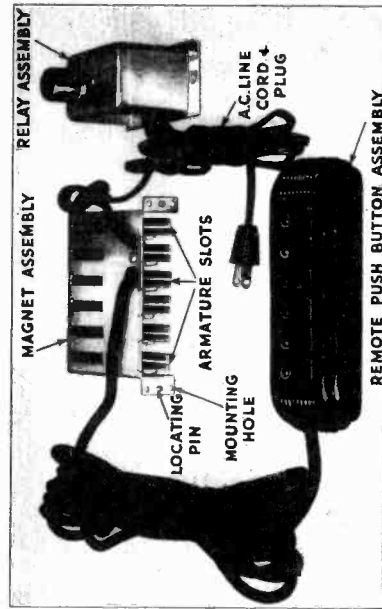
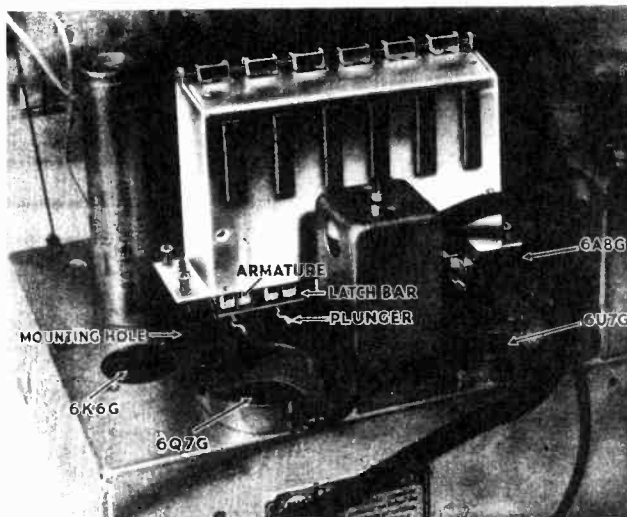
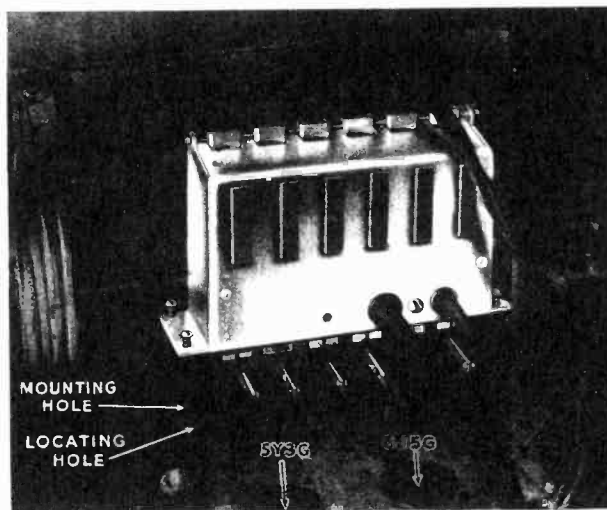
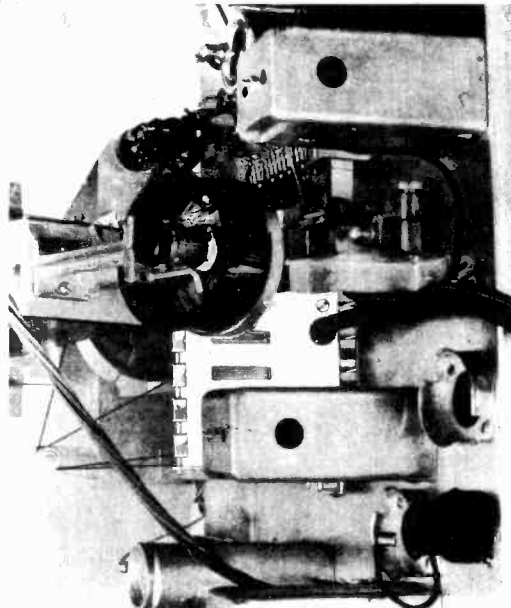

FIG. 1 GENERAL VIEW
FIG. 3
FIG. 5
FIG. 10
Fig. 1 shows the three units with their proper names indicated. Also, attention is directed to various parts of each unit to which names have been assigned for the purpose of making reference in the installation procedure which is given step by step for each radio model on the following pages.
4. Remove the cover plate on the top of the chassis by taking out four screws. Fig. 3 is a view of the chassis showing the cover plate removed.
5. Pick up the Magnet Assembly (see Fig. 1)—note that there are six armature arms, each of which is slotted.
7. Referring to Fig. 3, place the Magnet Assembly in position as shown so that the slots in the armatures are directly over the plungers. Now, carefully lower the Magnet Assembly so that the plungers enter the slots in the armatures. A screw-driver will be helpful in lining up any armature which may not be directly over the plungers.
8. The armatures must slip over the plunger between the latch bar and the shoulder of the plunger (see Fig. 3), also, refer to drawing (Fig. A, Page 8) which illustrates this point more clearly.
9. Rest the Magnet Assembly on the chassis base and move it slightly toward the back of the radio until the locating pins (see Fig. 1) on each side of the Magnet Assembly frame slip into the locating holes at both sides of the opening in the chassis base (see Fig. 3).
4. Before placing the Magnet Assembly in position, put the four screws which were used to hold the cover plate to the chassis into the mounting holes of the frame of the Magnet Assembly. Four very thin fibre washers are supplied which are used to hold the mounting screws in the mounting holes until the Magnet Assembly is lowered into position. For details on how to use these fibre washers to the best advantage, see drawing Fig. 1, Page 8.
8. Reset the Magnet Assembly on the chassis base and move it slightly toward the back of the radio until the locating pins (see Fig. 1) on each side of the Magnet Assembly frame slip into the locating holes at both sides of the opening in the chassis base (see Fig. 5).
4. Pick up the Magnet Assembly (see Fig. 1)—note that there are six armature arms, each of which is slotted.
7. The armatures must slip over the plungers between the latch bar and the shoulder of the plunger (see Fig. 7); also, refer to drawing (Fig. 1, Page 8) which illustrates this point more clearly.
8. Rest the Magnet Assembly on the chassis base and move it slightly toward the back of the radio until the locating pins (see Fig. 1) on each side of the Magnet Assembly frame slip into the locating holes at both sides of the opening in the chassis base (see Fig. 7).
4. Pick up the Magnet Assembly and move it to the right so that it is directly over the opening in the chassis. Fig. 10 shows the Magnet Assembly in proper position
5. Hold the Magnet Assembly so that the slots in the armatures are directly over the plungers. Now, carefully lower the Magnet Assembly so that the plungers enter the slots in the armatures. A screwdriver will be helpful in lining up any armature which may not be directly over the plungers. The armatures must slip over the plunger between the latch bar and the shoulder of the plunger (see Fig. 10); also, refer to drawing (Fig. B, Page 8) which illustrates this point more clearly.
6. Rest the Magnet Assembly on the chassis base and move it slightly toward the back of the radio until the locating pins (see Fig. 1) on each side of the Magnet Assembly frame slip into the locating holes at both sides of the opening in the chassis base (see Fig. 10).